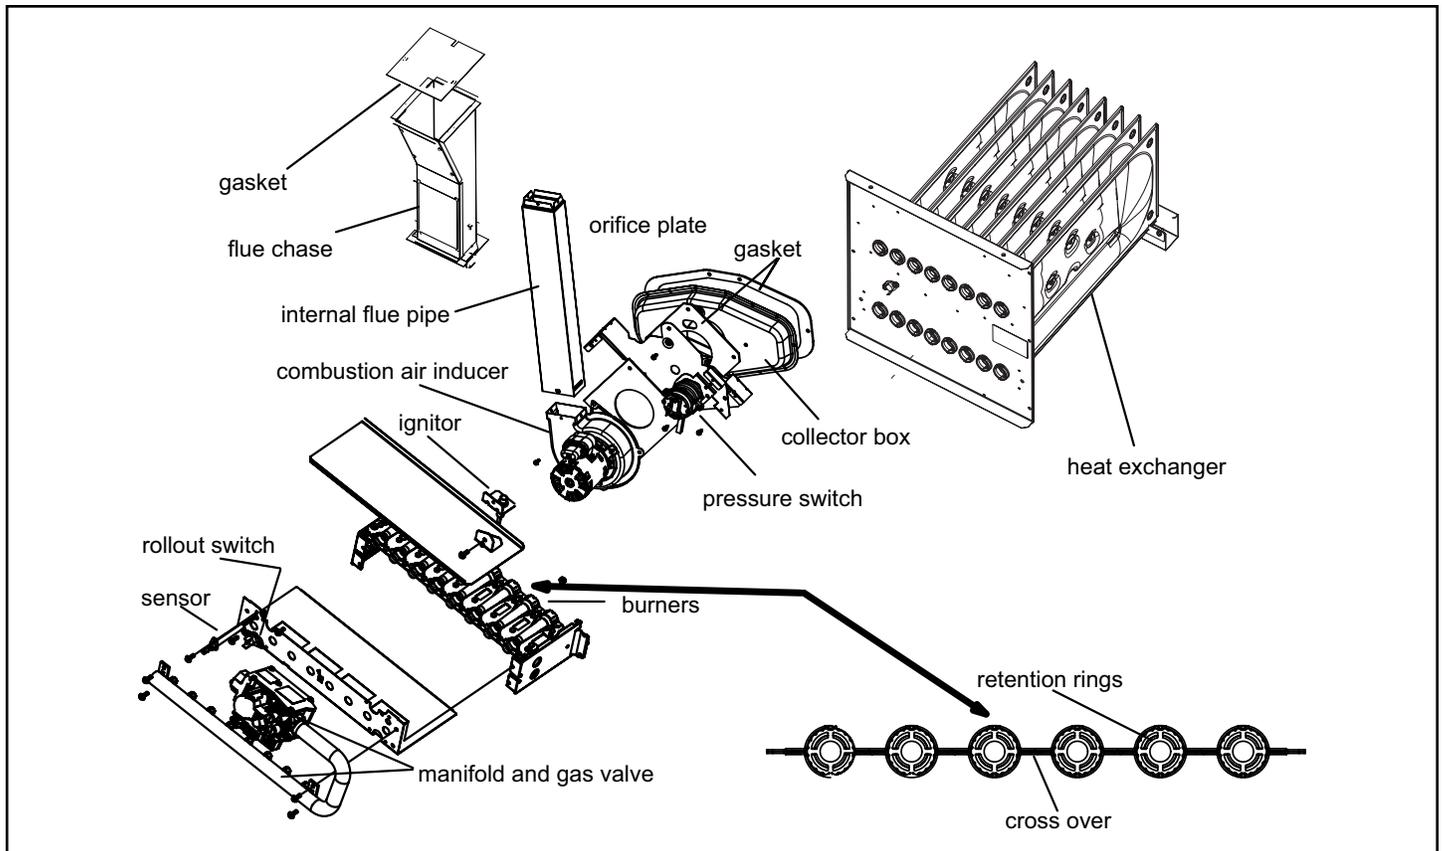

Figure 18. Burner, Combustion Air Inducer Assembly & Heat Exchanger Removal
11. To clean burners, run a vacuum cleaner with a soft brush attachment over the face of burners. Visually inspect inside the burners and crossovers for any blockage caused by foreign matter. Remove any blockage. Figure 18 shows burner detail.